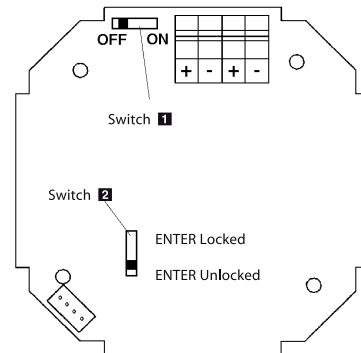

Figure 9
7. Turn meter power "ON" – Remove four screws and the cover and put the switch in position "ON" (see Figure 9).
2. Make sure meter is powered ON (See Figure 9)